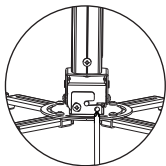

figure 12
1. Loosen the positioning screws (front and back) for adjusting the angle, and then rotate the screwdriver for fine turning to the required angle as figure 12.